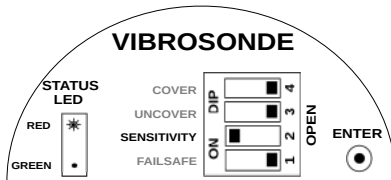

Figure 7: Sensitivity Switch Position
2. To make the instrument sensitive, set the SENSITIVITY switch to CLOSE position as shown in figure 7. A small screw driver can be used for closing and opening of DIP Switch. (CLOSE is the opposite of OPEN for a DIP switch). The STATUS RED LED will glow.